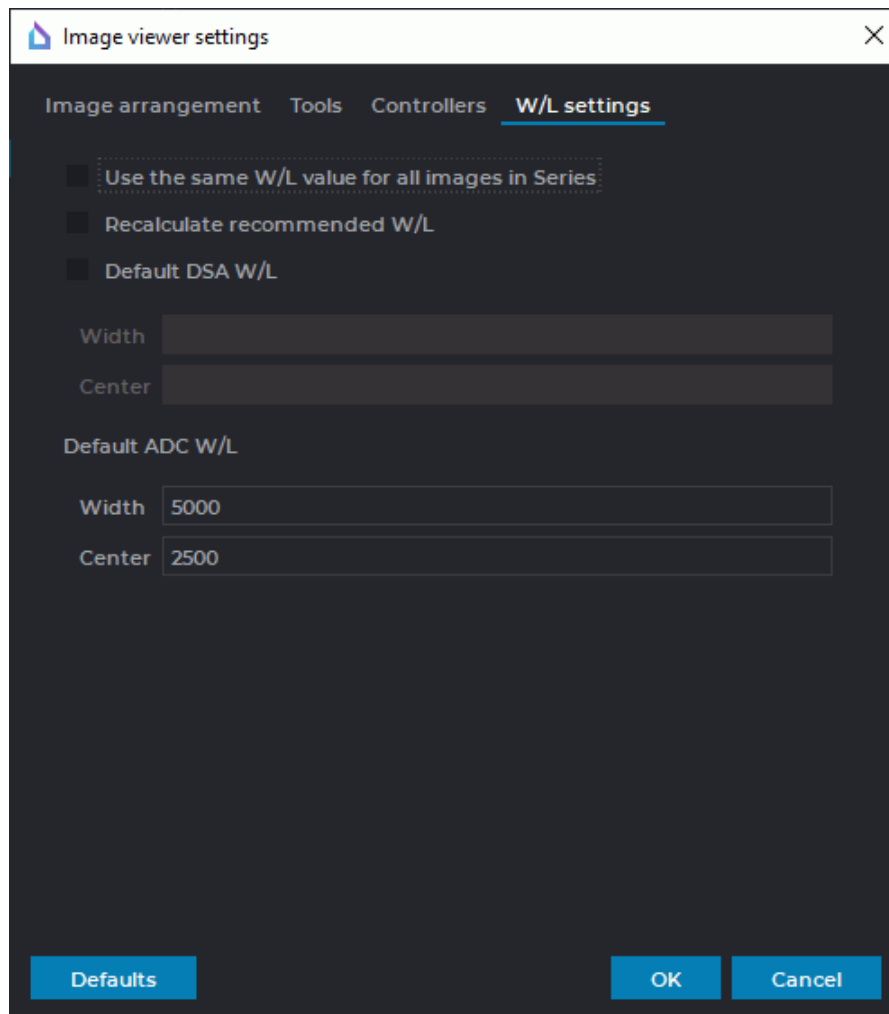

Figure 2.24: Image viewer settings dialog box
3. From the **Image viewer settings** window, go to the **Window Level settings** dialog box (Figure 2.24).